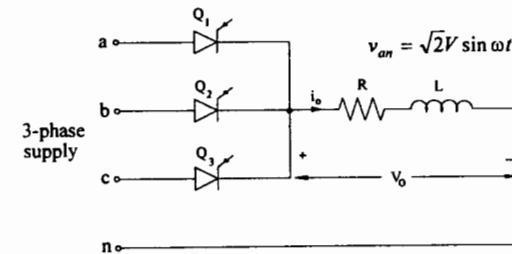

Figure 3: A three-phase half-wave rectifier.
3. For the 3-phase half-wave controlled rectifier circuit shown in Figure 3, $V = 120$ V, $R = 3 \Omega$ and $\alpha = 45^\circ$. The load inductance is so large that the load current virtually remains constant. (a) Sketch to scale the time variations of the output voltage, the output current and the input line currents, and calculate the (b) average output voltage, (c) average output current and (d) the maximum reverse voltage across each thyristor.